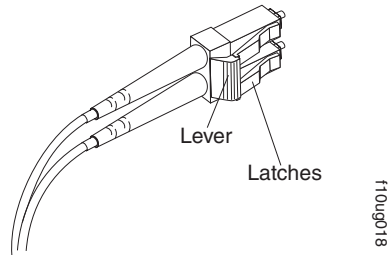

Figure 48. LC-LC fibre-channel cable lever and latches
1. On the end of the cable that connects into the LC connector end of the LC-SC cable adapter, press down and hold the lever to release the latches. Figure 48 shows the location of the lever and latches.